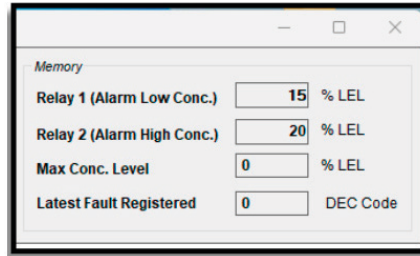

Figure 10b
2. The new concentration is reported also in Memory section (Figure 10b)